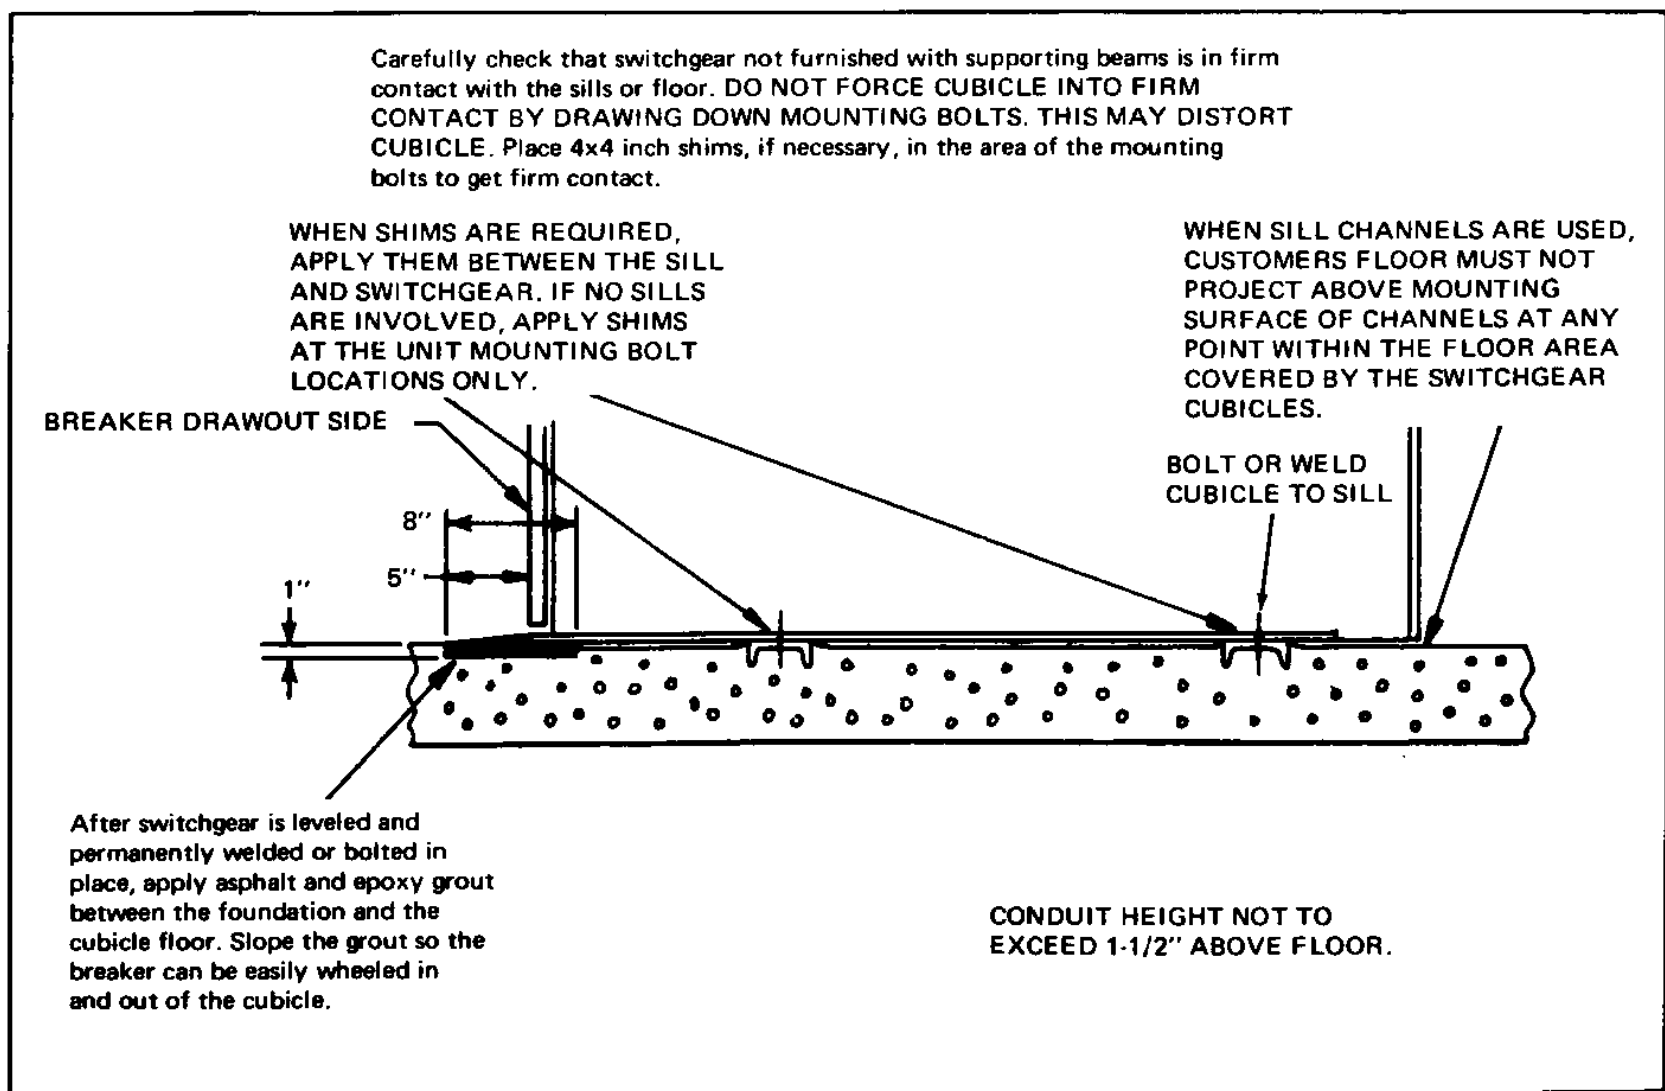

Figure 15. Setting Indoor Cubicles on Foundation
Before setting and erecting the cubicles, determine the correct locations of each shipping group and sequence of installation on the general arrangement drawing. Sweep the mounting surfaces to remove all dirt. Refer to Figures 15 through 21 for additional installation instruction.
Before setting and erecting the cubicles determine the correct locations of each shipping group on the general arrangement drawing. Sweep the mounting surfaces to remove all dirt. Refer to Figures 15 through 21 for additional installation instructions.
1. Check cubicles at each anchor bolt location (4 per cubicle) to make certain that they are in firm contact with floor or sill (whichever is used). If this condition does not exist add 4" x 4" steel shims adjacent to the anchor bolt location until firm contact is achieved. Shims are not furnished with switchgear (See Figure 15).